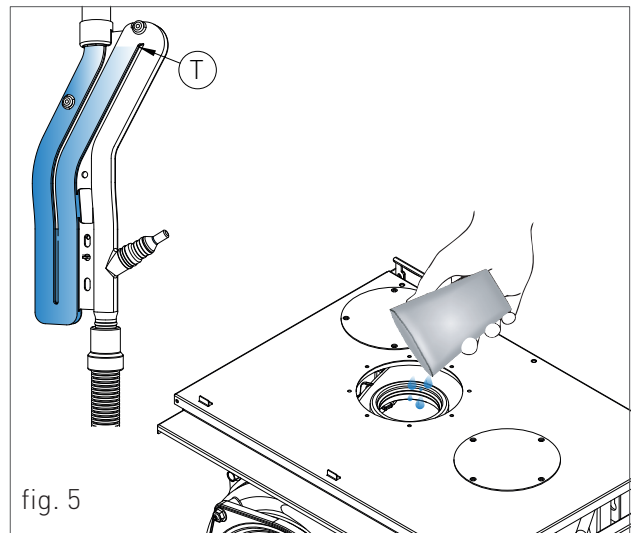

fig. 5
Fill the condensate syphon as follows (see fig. 5):
- › With a glass pour the water in the heat exchanger's flue exhaust duct outlet (see fig. 5), up to fill the condensate syphon to the highest point "T" (fig. 5);